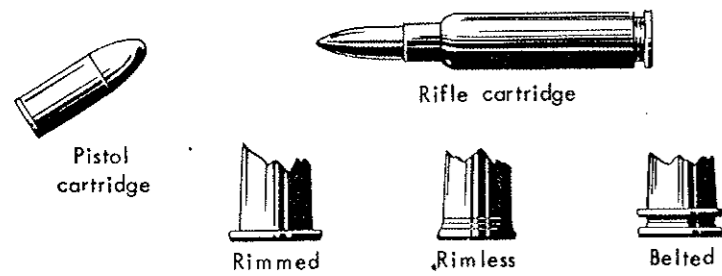
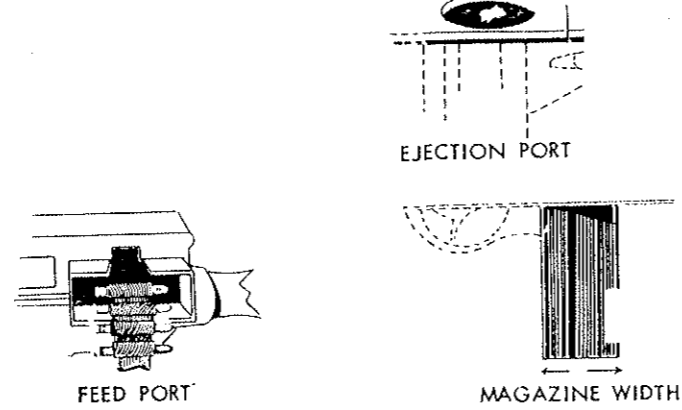

Figure 16.
Figure 17.
14. What types of ammunition are fired (armor piercing, incendiary, etc.)? What is the shape of the bullet (round-nosed and short like a pistol bullet or long like a rifle bullet)? What are the dimensions of bullet and cartridge case? Is the cartridge case rimmed, rimless, or belted (fig. 16)? Is the cartridge case tapered or parallel? What material is used in the cartridge case construction? Feed and ejection ports and magazines will usually give an indication of the ammunition size (fig. 17).